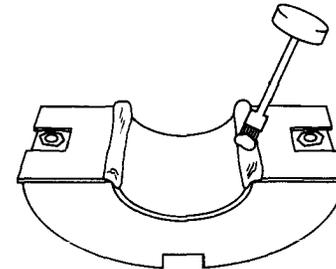

Figure 22 — Applying "C" Cement to End Plate Half
9.03 Before applying the prepared end plate halves to cable, apply "C" cement 1/2" (1.27 cm) wide adjacent to the hole and 1/2" (1.27 cm) wide into the hole for the total width of the end plate. (Fig. 22).